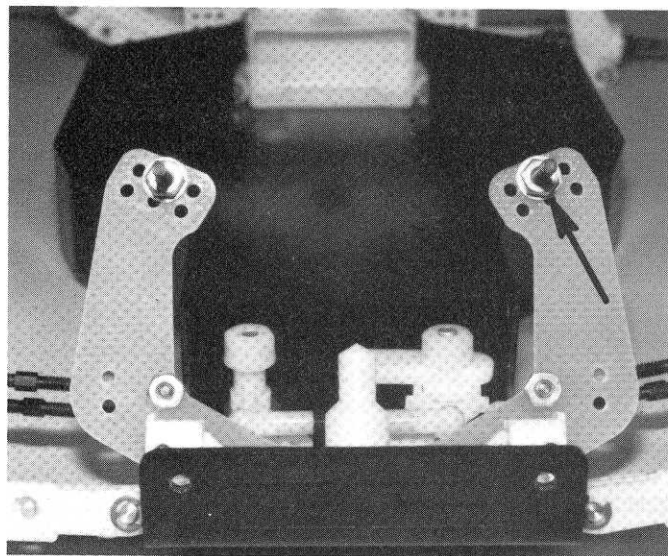

Fig. 107
□ **Fig. 107** Now we'll install the front shocks on the car. The arrow in the photo is pointing to the upper mount. Now slip on an aluminum washer and then screw down and tighten one of the 4/40 plain nuts. Now slip the flanged nylon shock bushing on next, with the flanged end on first.